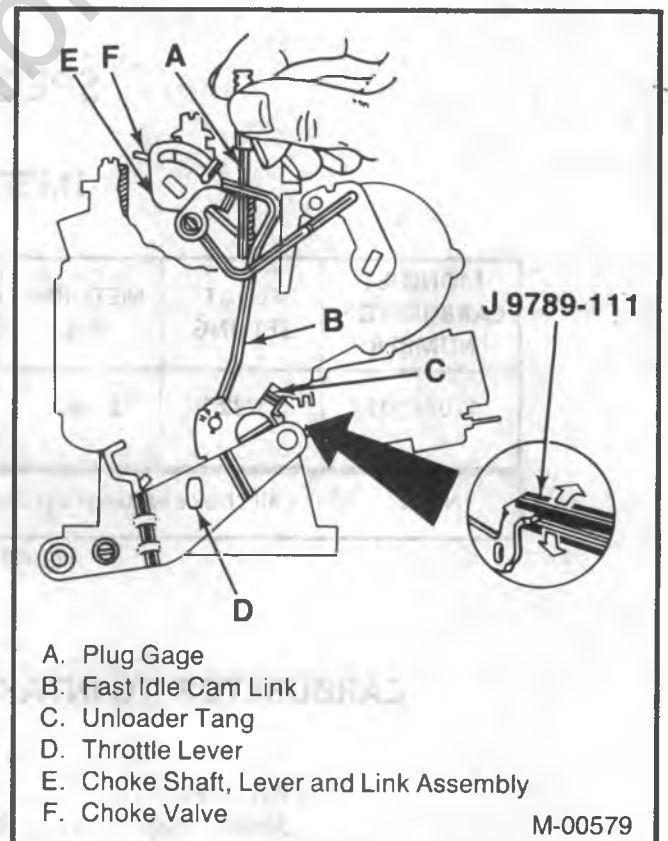

Figure 24 - Unloader Adjustment
Adjust (Figure 24)
4. If adjustment is needed, use J 9789-111 or BT-3006M to bend the unloader tang on throttle lever (as shown in the inset of Figure 24).